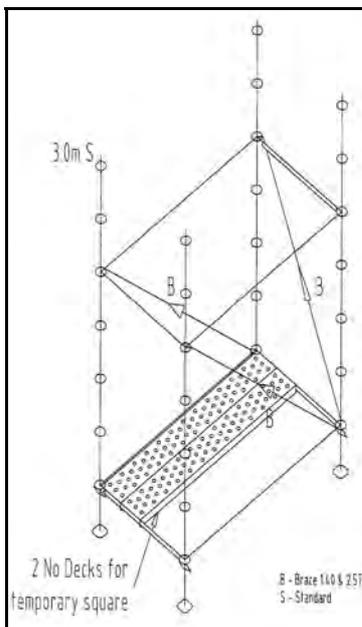

FIGURE 2.
6. Brace outer face and each end of the stair tower with the appropriate diagonal brace (labels on braces show length of bay i.e. 1.4m, 2.57m or 3.07m). **(Fig 2.)**